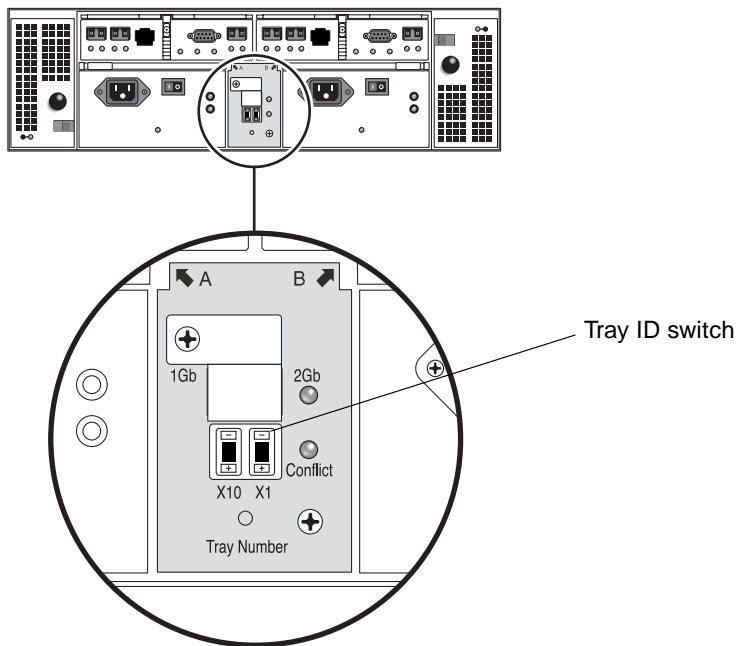

FIGURE 2-19 Tray ID Switch
1. Locate the Tray ID switch at the back of the controller enclosure, between the two power supplies (FIGURE 2-19).